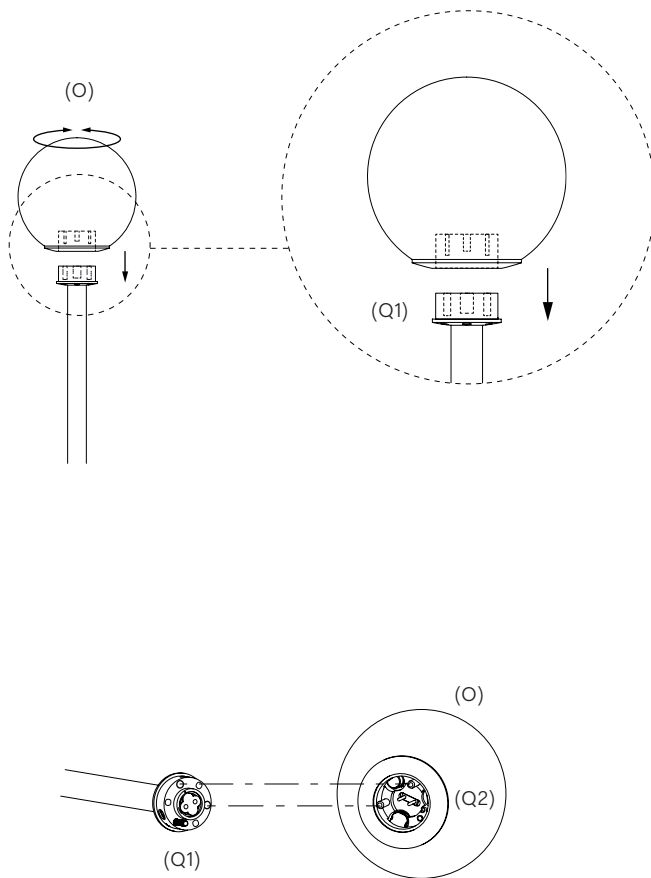

Fig. 16
Secure the Small Globe (O), with the supplied M2×8 screw, ensuring it is tight. See Fig. 15 and Fig. 16